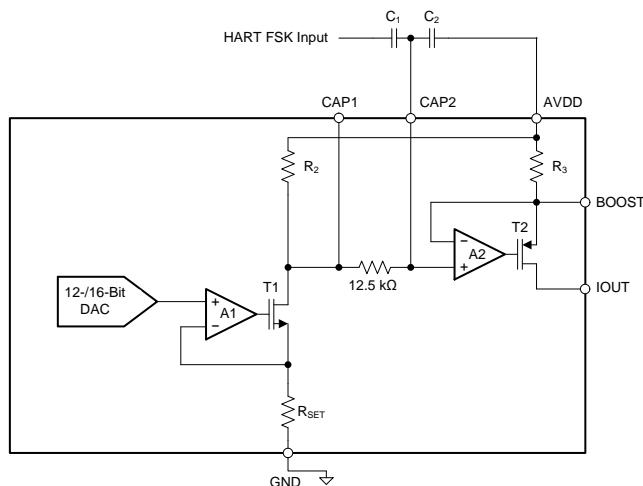

Figure 93. Implementing HART on IOUT Using the CAP2 Pin
The first method of implementing HART is to couple the signal through the CAP2 pin, as conceptualized in Figure 93. Note that this pin is only available in the 40-pin VQFN package.
In Figure 93, R_3 is nominally $40\ \Omega$, and R_2 is dependent on the current output range (set by the RANGE bits) as described below:
1. As is seen in Figure 93, CAP2 is directly connected to the input of the final IOUT amplifier. Any noise or unwanted ac signal routed near the CAP1 and/or CAP2 pins could capacitively couple onto internal nodes and affect IOUT. Therefore, with the QFN package, it is important to avoid routing any digital or HART signal trace over the CAP1 and CAP2 traces.